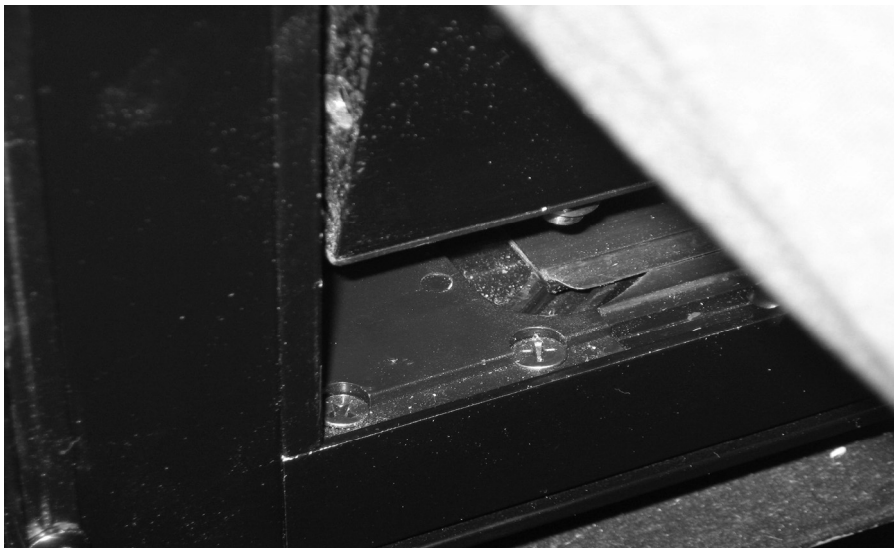

FIGURE 24: POSITIONING THE LOWER LEFT CORNER OF THE SASH
2. Position the left hand lower corner of the sash over the front cam follower block (Figure 24)